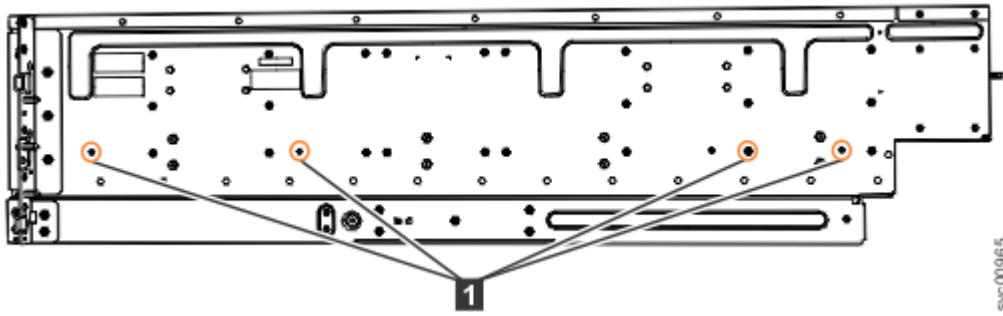

Figure 35. Screw locations to attach the inner rail to the enclosure
4. Use four M4 screws to attach the inner rail to the side of the enclosure. Figure 35 on page 55 shows the screw locations.